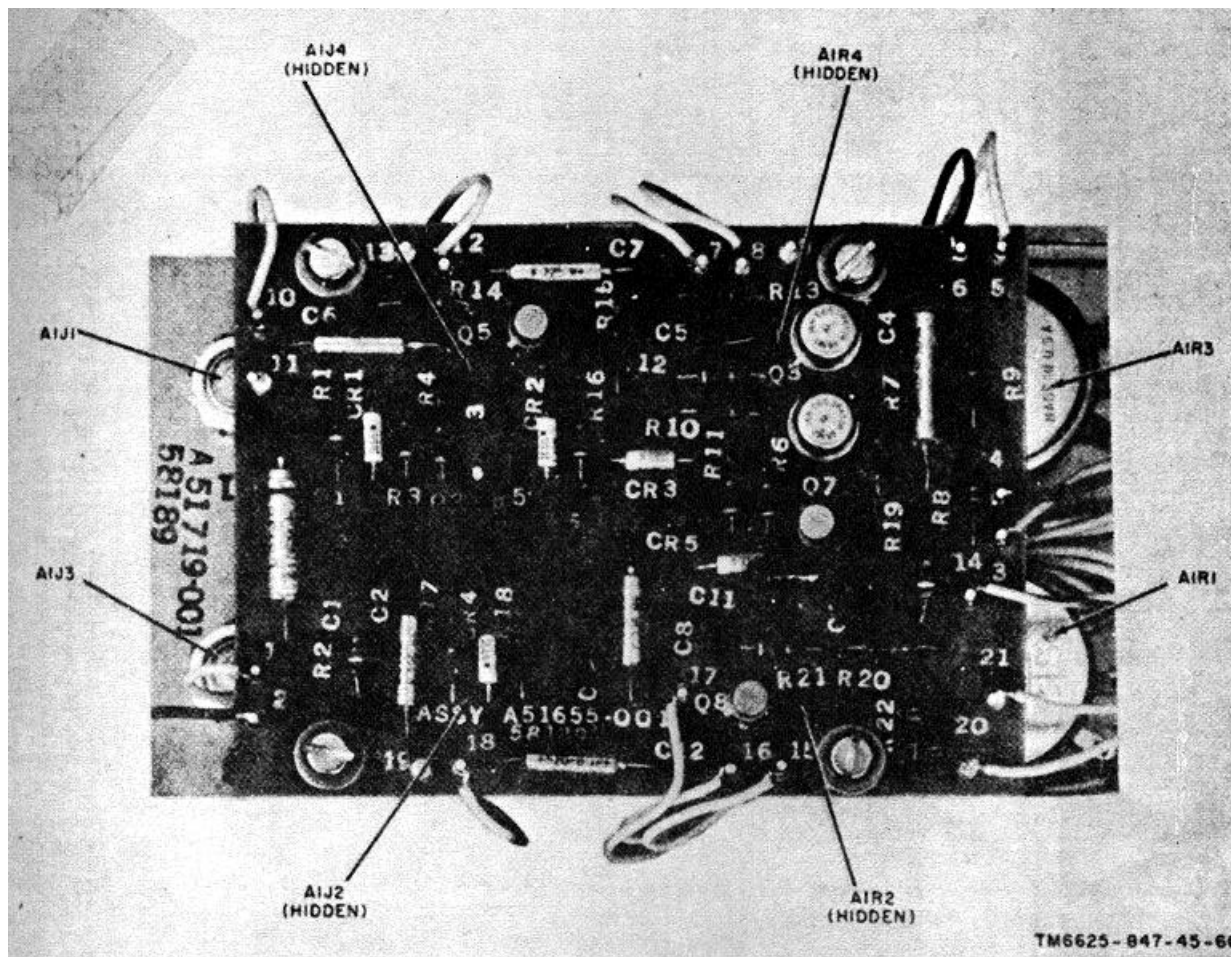

Figure 4-3. Test set A2, pulse generator assembly A1A1.
b. Test Connections and Conditions. Connect the test equipment as shown in figure 6-17 to test pulse generator assembly A1A1. Pulse generator assembly A1A1 is illustrated by figure 4-3.